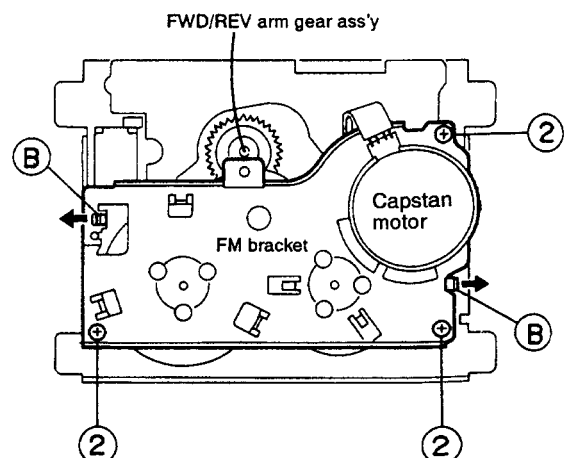

Fig. 5-22
(See Figures 5-22 to 5-24)
1. Remove three screws ② retaining the FM bracket assembly mounting from the chassis base. (See Figure 5-22)
2. Open outwards and remove two tabs (B) retaining the FM bracket .